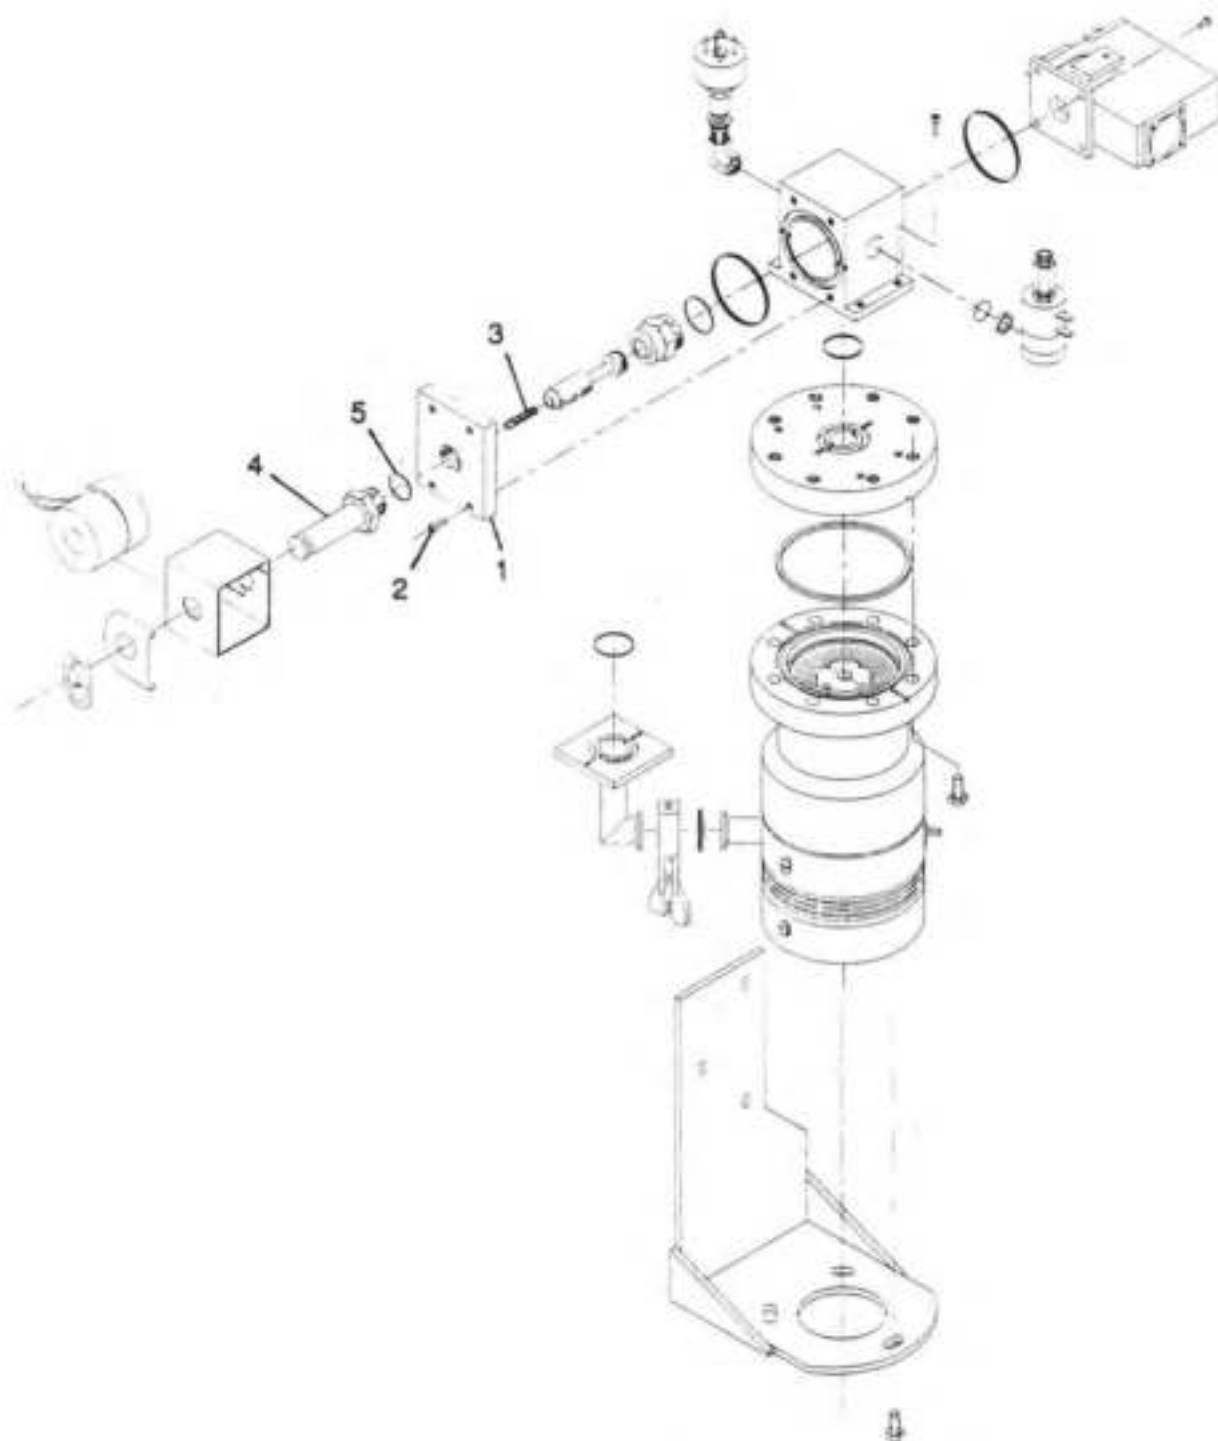

Figure 5-5. Exploded view of the main components of the vacuum system
- 20 An exploded view of the main components of the vacuum system (the turbo pump, the spectrometer tube, the thermocouples, and the valves) is shown in Figure 5-5.